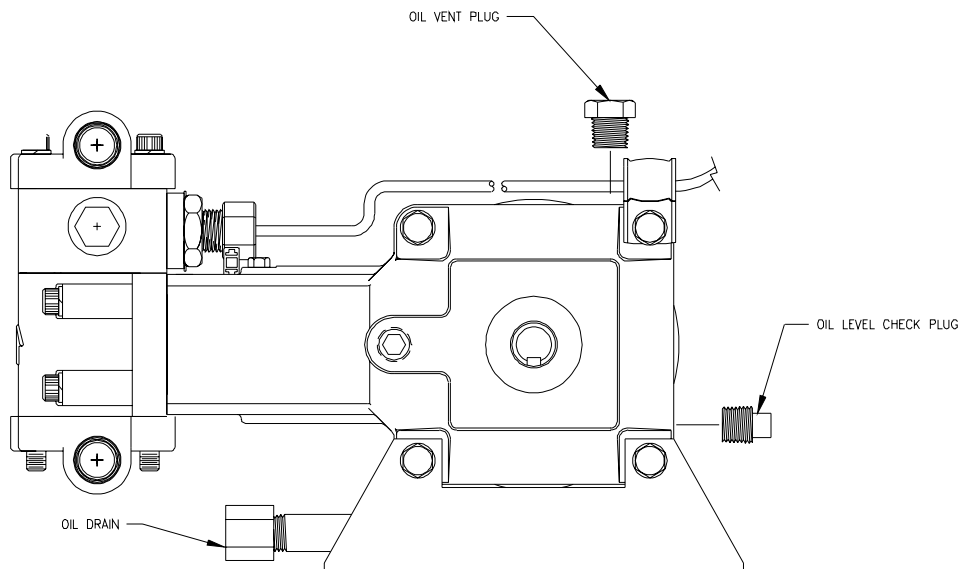

FIGURE 15
- 4) Use highest pump setting which intersects both vertical lines. **EXAMPLE:** 58.1 oz/min [17.0 dl/min] MAXIMUM, 10.3 oz/min [3.0 dl/min] MINIMUM = pump setting 6. (See Figure 15).
- 4) Check oil level in Injection Pump daily. If addition of oil is required, add Mobil #1 (5W30) ONLY. Drain and refill the pump after every 150 hours of operation. (See Figure 15).